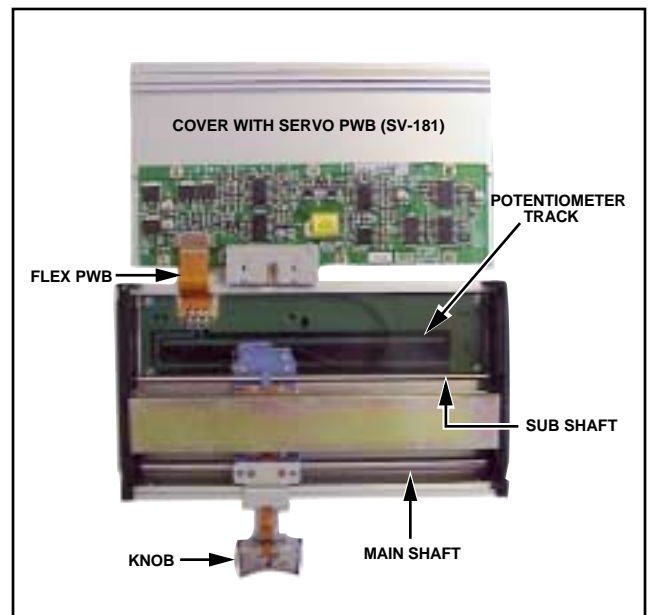

Figure 1
- c. Carefully place removed cover, which is still connected to body by flex pwb, on opposite side of body. Both inner sides of unit can now be seen. (See Figure 1.)